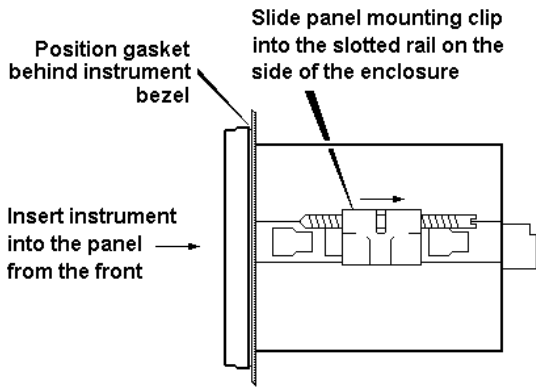

Fig 6a Installation into panel
Figs 6a and 6b illustrate the instrument installation procedure.
- Insert the instrument into the panel aperture from the front of the panel as shown in Fig 6a.